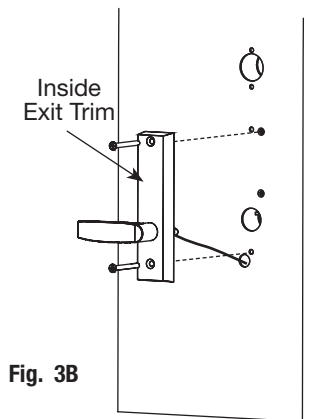

Fig. 3B
2. Mount inside trim lever using (2) # 1/4" -20 x 3" Phillips oval head machine screws. (Fig. 3B).